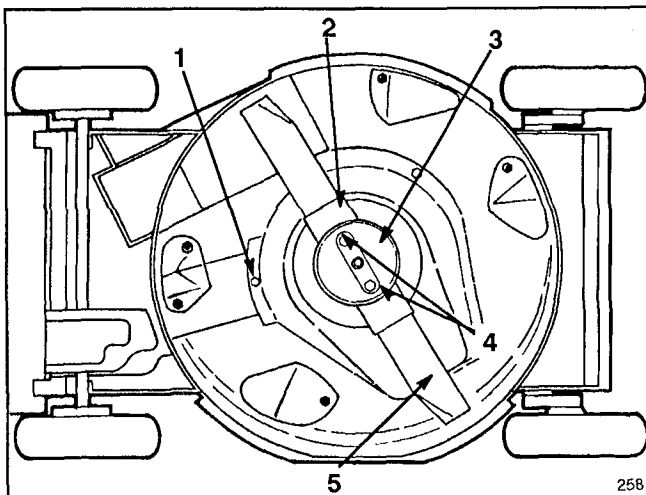

Figure 32
4. Remove (2) blade nuts, anti-scalp cup, blade stiffener, blade, blade spacer, and (3) bolts and washers securing BBC shield to mower deck (Fig. 32).